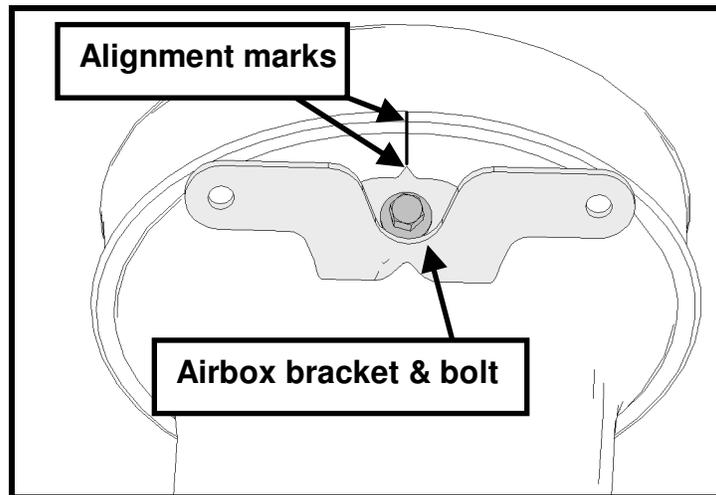

Fig. 5
- STEP 2:** Install the clean air tube support bracket (R07060104) to the clean air tube and position using the alignment marks on both the bracket and the tube. Secure the bracket to the tube using bolt (N605771) supplied in kit (See Fig. 5). **NOTE:** Apply medium-strength thread locking compound to the bolt threads prior to installation and torque to 10 Nm (88 lb in).